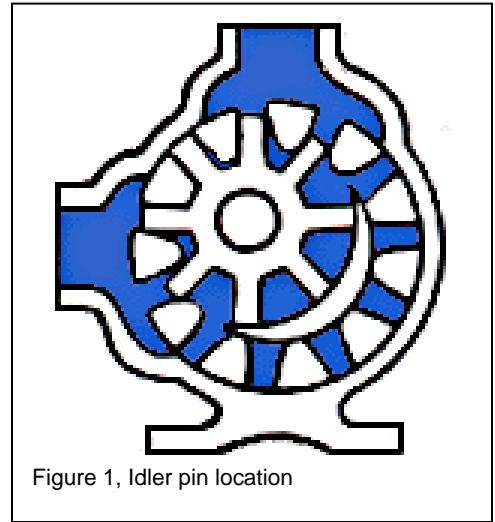

Figure 1, Idler pin location
**PACKING ADJUSTMENT:** New packed pumps require initial packing adjustment to control leakage as packing "runs in". The adjustment should be made while the pump is operating with normal operating pressure on the discharge of the pump. Make adjustments carefully and do not over-tighten packing gland. Evenly tighten the gland fasteners until the leak is reduced to a very slow drip. If over tightened the packing will over heat, score the shaft and reduce life. After initial adjustment, inspect periodically for increased leakage and re-adjust. Once the gland has been tightened to the stuffing box face, loosen the packing gland and add one ring to the stuffing box, then adjust again. Figure 1, page 2. Refer to instructions under Disassembly, page 5, and Assembly, page 6, regarding re-packing pump.